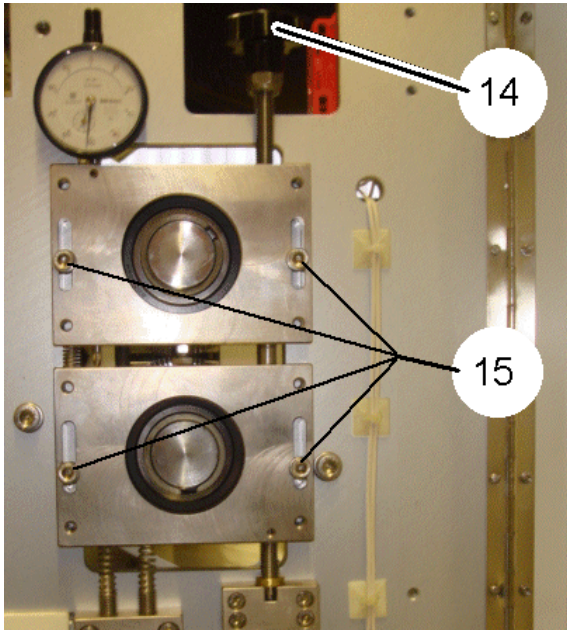

Figure 2
- To check or adjust depth of cut, release the 4 bearing block screws (Figure 2, pointer 15) on each side of the machine. Now using a 0,5mm feeler, slowly rotate the cutter shaft whilst adjusting the lead screw (Figure 2, pointer 14) until the cutters just touch the 0,5mm feeler. Slacken the bezel clamp and set gauges to 0,5mm, re-tighten. Do the same operation on both ends of cutter shaft to ensure shafts and gauges are both set parallel and at same setting. Re-tighten 8 bearing block screws.
- Depth of cut setting: After slackening the 8 bearing block screws (Figure 2, pointer 15) rotate the 2 lead screws (Figure 2, pointer 14) evenly until the correct depth of cut is seen on the gauges. Re-tighten bearing block screws. NOTE: The cutters move evenly about the centre line. Check tension of cutter drive belt. Tension if necessary, by releasing the screw, moving support and re-tightening screw. (NOTE: some variation in tensioner design may be seen, depending on model). Re-position end and top covers.
- Right hand bearing block (not drive belt end). (Figure 2, pointer 15). Bend back locking tab and loosen the two castellated nuts holding the shaft to the bearing block. Tap nut with soft headed mallet to release bearing from shaft, if not released turn shaft 90 degrees and tap nut until taper is released. Only then, slacken the 4 bolts holding the (right) bearing block, but do not remove completely.